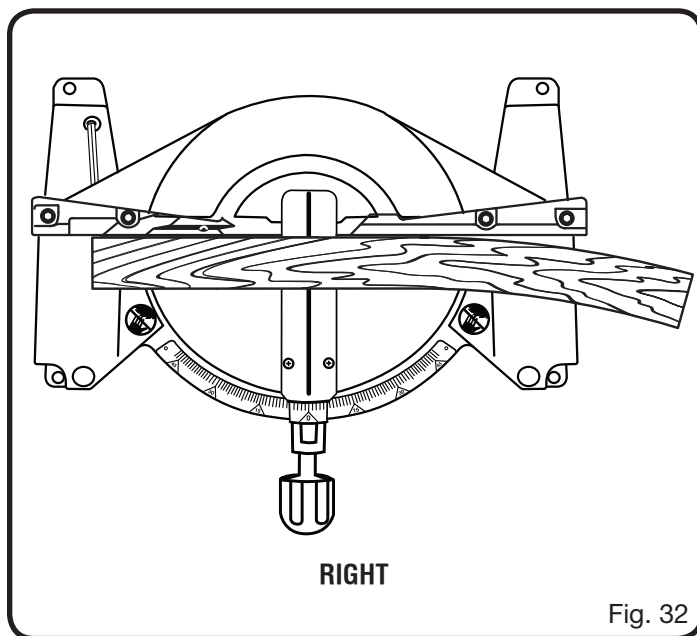

Fig. 32
- Place the workpiece flat on the miter table with one edge securely against the fence. If the board is warped, place the convex side against the fence. If the concave edge of a board is placed against the fence, the board could collapse on the blade at the end of the cut, jamming the blade. *See Figures 32 - 33.*
See Figures 32 - 33.
When cutting warped material, always make sure it is positioned on the miter table with the convex side against the fence as shown in figure 32.